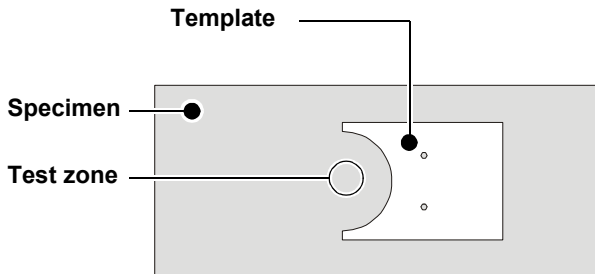

Figure 4. Template positioning
1. Place the indentation locating template on the specimen. Position the template with respect to the test zone as shown in Figure 4 and press down firmly against the specimen to hold the template in place.